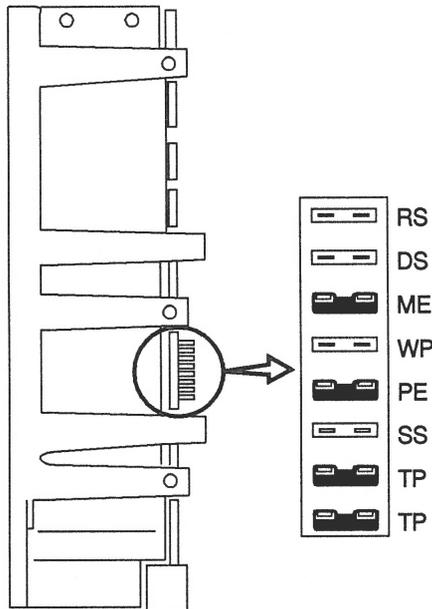

Figure 4-5 Configuration Jumper Settings
1. **Compare the drive configuration jumper settings to the those shown in Figure 4-5 by turning the drive upside down.**